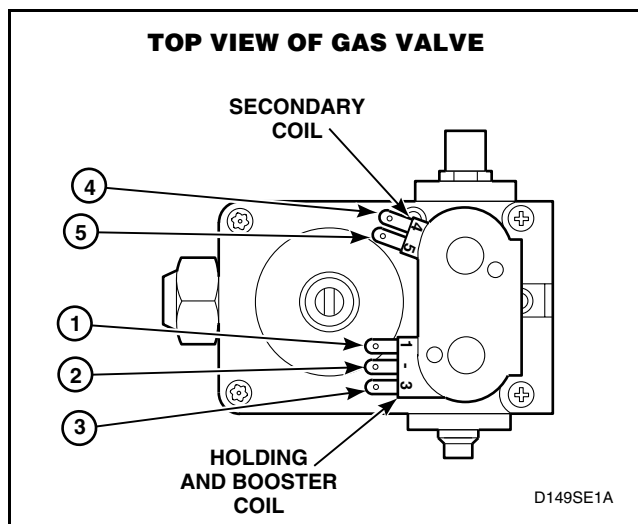

Figure 33
2. Set test meter to read OHMS and put meter probes to terminals as follows: Refer to *Figure 33*.